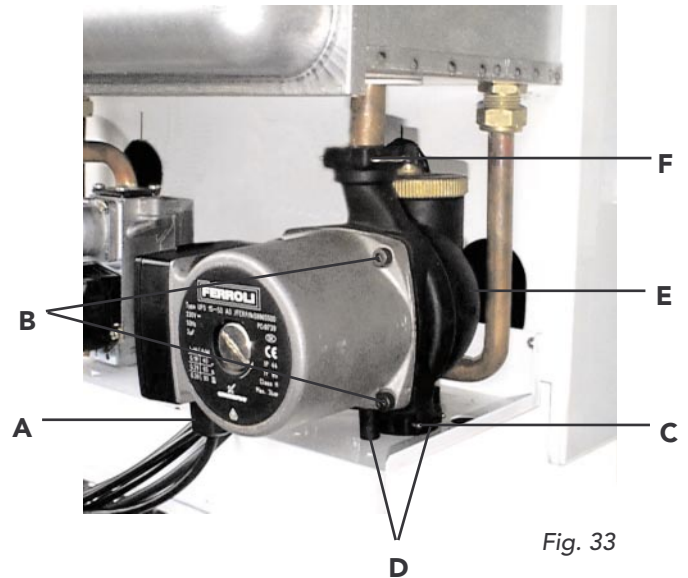

Fig. 33
7.15 Pump (fig. 33) Replacement of pump head
Replacement of pump body (fig. 33)